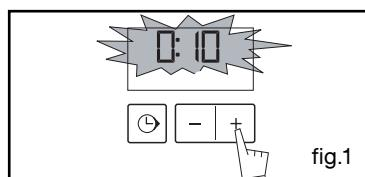

fig.1
- Set and validate the time on your programmer to 0:10 (fig.1)